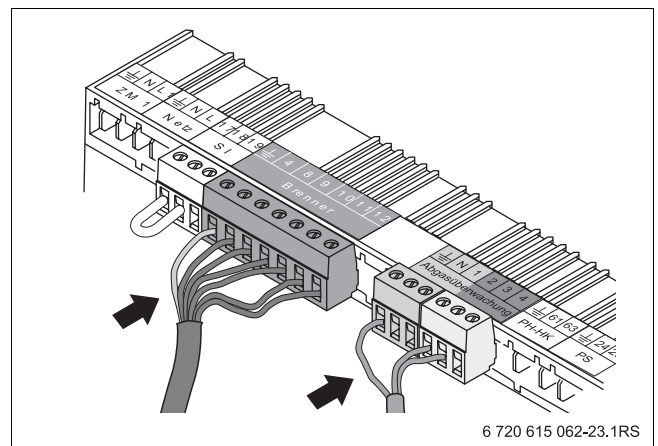

Fig. 29 Connecting the burner cable and flue-gas safety temperature limiter cable inside the control panel
- Insert flue gas safety limiter (STB) connectors in socket labeled "Abgasüberwachung" as shown in Fig. 29.